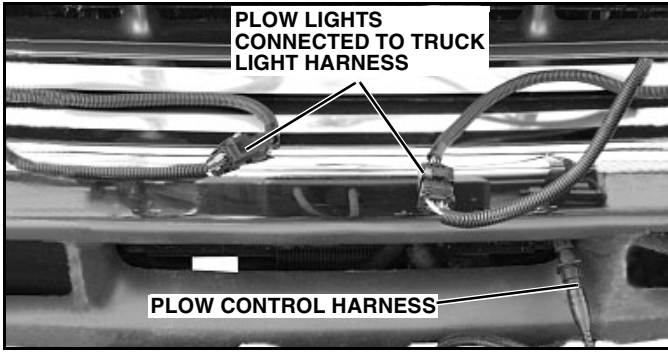

Figure 1-31
2. Plug EIS® plow light connectors into mating connectors on truck light harness. (See Figure 1-31).